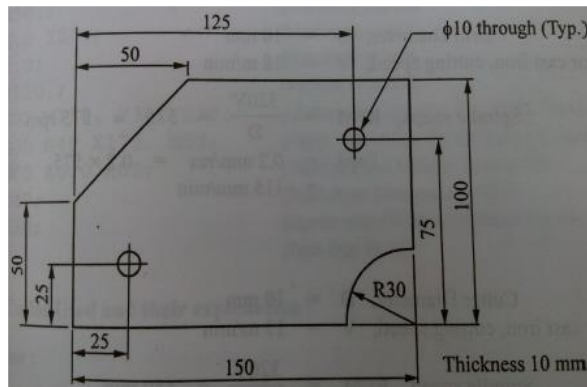

Figure 1
- Q.5** (a) Write manual part program for machining of the component shown in figure 1. Assume raw product as a cast iron and machining is to achieve the various dimensions as shown in figure 1. Drill and milling cutter to be used is of diameter 10 mm. Assume spindle speed for drilling and milling as 575 rpm and 480 rpm respectively. Assume feed rate as 115 mm/min and 290 mm/min for drilling and milling respectively. **07**